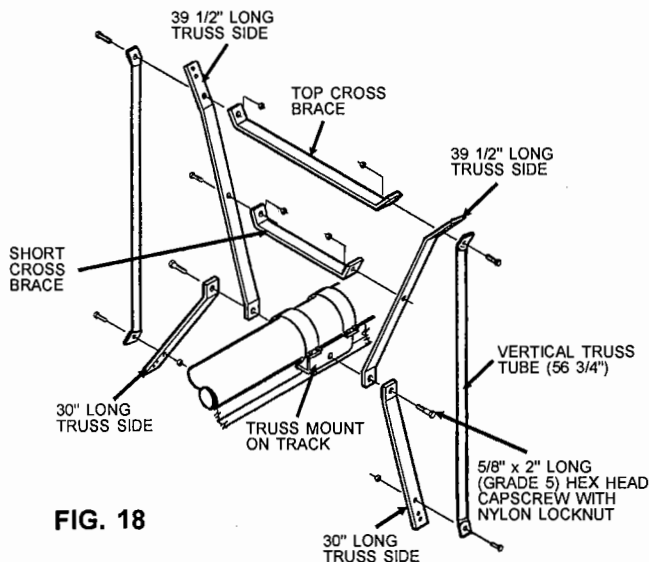

FIG. 18
Step 8. Loosely bolt the 39 1/2" and 30" long truss sides to the main truss mount on the track using 5/8" x 2" long (grade 5) hex head cap screw with nylon locknuts. See Fig. 18.
Step 9. Bolt the short cross brace between the 39 1/2" long truss sides using two 3/8" x 1 1/2" long (grade 5) hex head cap screw and nylon locknuts. Bolt the top cross brace between the truss sides and the vertical truss tubes using two 3/8" x 1 1/2" long (grade 5) hex head cap screws and nylon locknuts. Bolt the other end of the vertical truss tube to the 30" truss sides using two 3/8" x 1 1/4" long (grade 5) hex head cap screws and nylon locknuts. See Fig. 18. Tighten the hardware holding the truss sides to the truss mount.